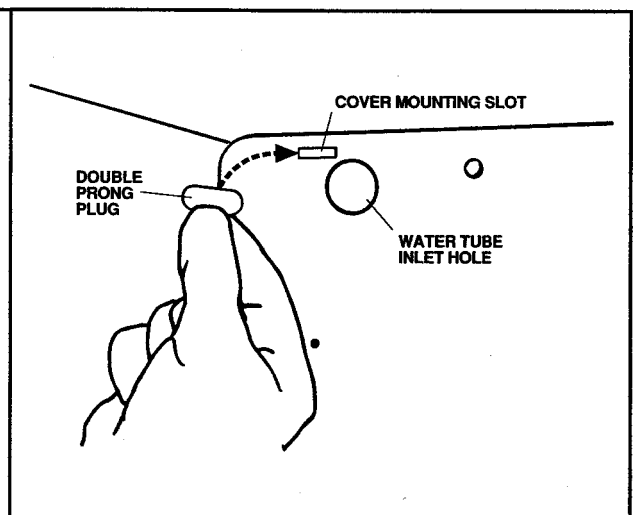

Figure 5
6. Push in a double-prong plug to seal the cover mounting slot. See Figure 5.